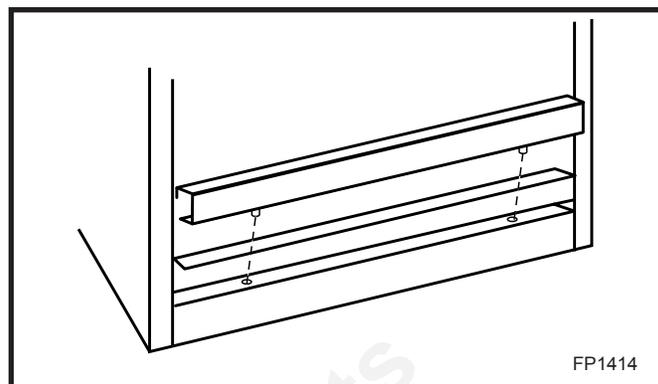

Fig. 5 Valve access.
1. Remove the front panel just below the front of the hearth pan. This is accomplished by lifting on the panel. To replace the valve access panel line up the two pins with the holes in the surround bottom and push the panel over the front of the hearth pan. (Fig. 5)